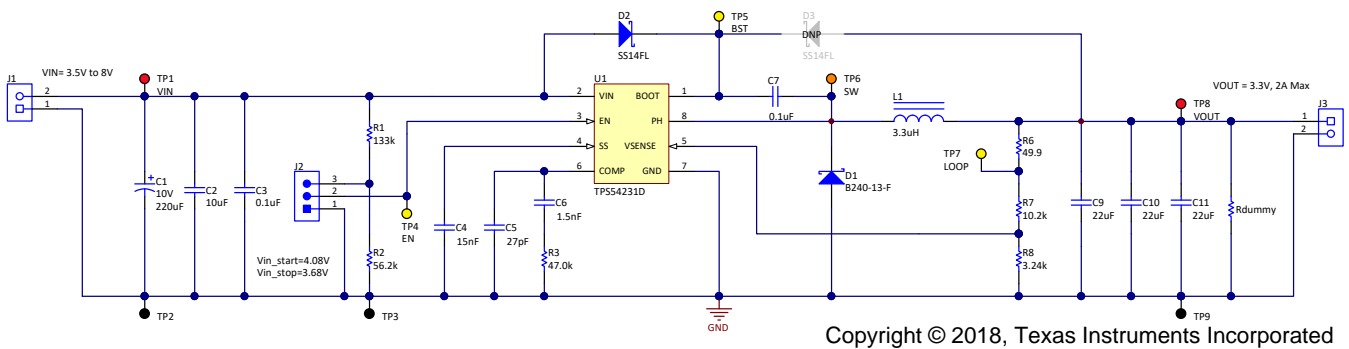
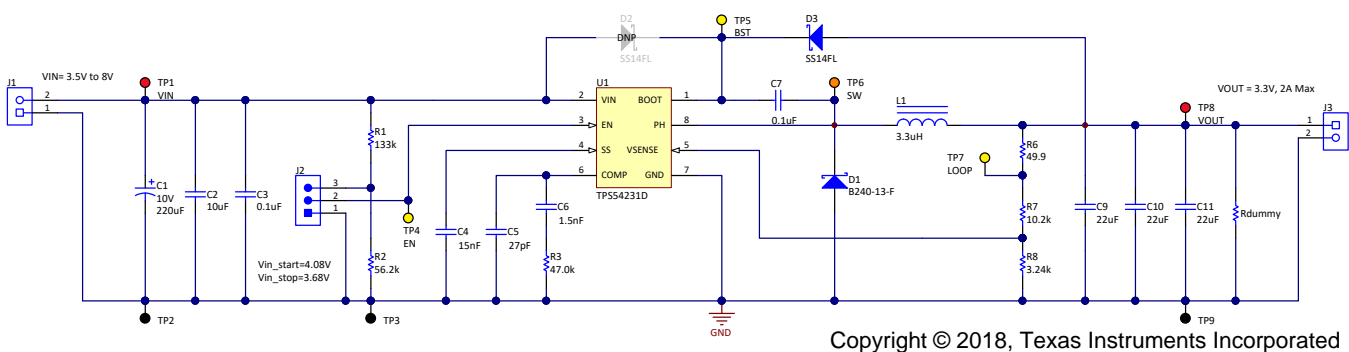

Figure 7. TPS54231 Circuit with Solution (1) + (A)
Figure 8. TPS54231 Circuit with Solution (2) + (A)
Figure 7 and Figure 8 show the circuit of solution (1) + (A) and solution (2) + (A) with 3.3 V output.